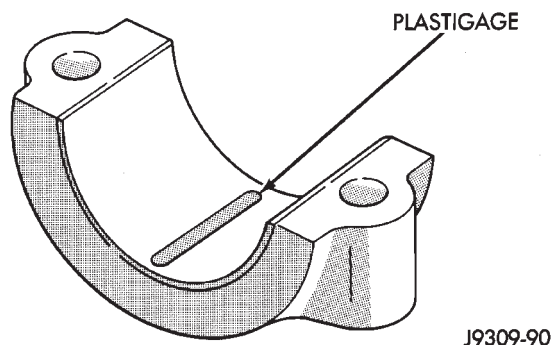

Fig. 2 Placement of Plastigage in Bearing Shell
(1) Place a piece of Plastigage across the entire width of the bearing cap shell (Fig. 2). Position the Plastigage approximately 6.35 mm (1/4 inch) off center and away from the oil holes. In addition, suspect areas can be checked by placing the Plastigage in that area. Tighten the bearing cap bolts of the bearing being checked to 108 N·m (80 ft. lbs.) torque (4.0L Engine). Tighten the bearing cap bolts of the bearing being checked to 115 N·m (85 ft. lbs.) torque (5.2/5.9L Engine). **DO NOT rotate the crankshaft**
(1) Remove oil film from surface to be checked. Plastigage is soluble in oil.
(2) Place a piece of Plastigage across the entire width of the bearing cap shell (Fig. 2). Position the Plastigage approximately 6.35 mm (1/4 inch) off center and away from the oil holes. In addition, suspect areas can be checked by placing the Plastigage in the suspect area.
(3) The crankshaft must be turned until the connecting rod to be checked starts moving toward the top of the engine. Only then should the rod cap with Plastigage in place be assembled. Tighten the 4.0L rod cap nut to 45 N·m (33 ft. lbs.) torque. Tighten the 5.2/5.9L rod cap nut to 61 N·m (45 ft. lbs.) torque. **DO NOT rotate the crankshaft or the Plastigage may be smeared, giving inaccurate results.**
(4) Remove the bearing cap and compare the width of the flattened Plastigage with the scale provided on the package (Fig. 2). Plastigage generally comes in 2 scales (one scale is in inches and the other is a metric scale). Locate the band closest to the same width. This band shows the amount of clearance. Differences in readings between the ends indicate the amount of taper present. Record all readings taken (refer to Engine Specifications).
(5) Plastigage is available in a variety of clearance ranges. The 0.025-0.076 mm (0.001-0.003 inch) range is usually the most appropriate for checking engine bearing clearances.